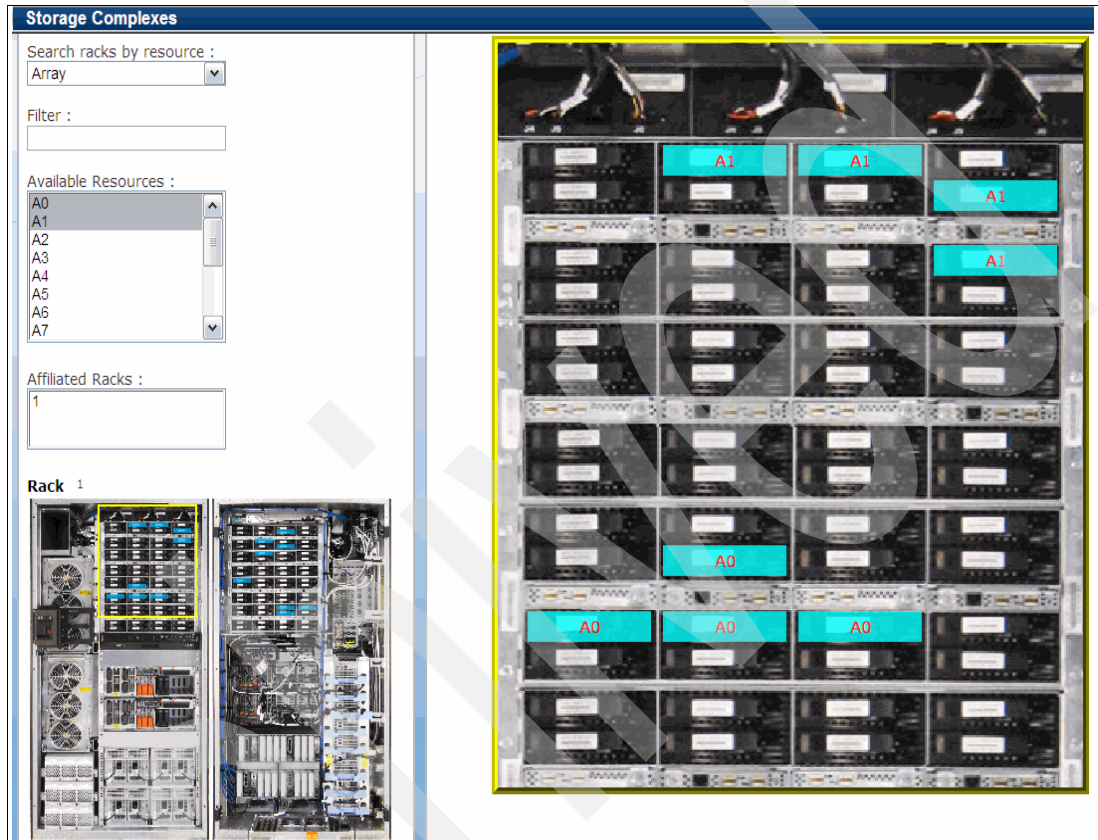

Figure 13-79 View arrays
- In order to check where the physical disks of arrays are located, change the search criteria to **Array** and from the Available Resources section, click one or more array IDs that you want to explore. After you click the array ID, the location of each DDM is highlighted in the rack image. Each disk has an appropriate array ID label. Use your mouse to move the yellow box in the rack image on the left to the desired location across the DS8700 front and rear view to view the magnified view of this section, as shown in Figure 13-79.